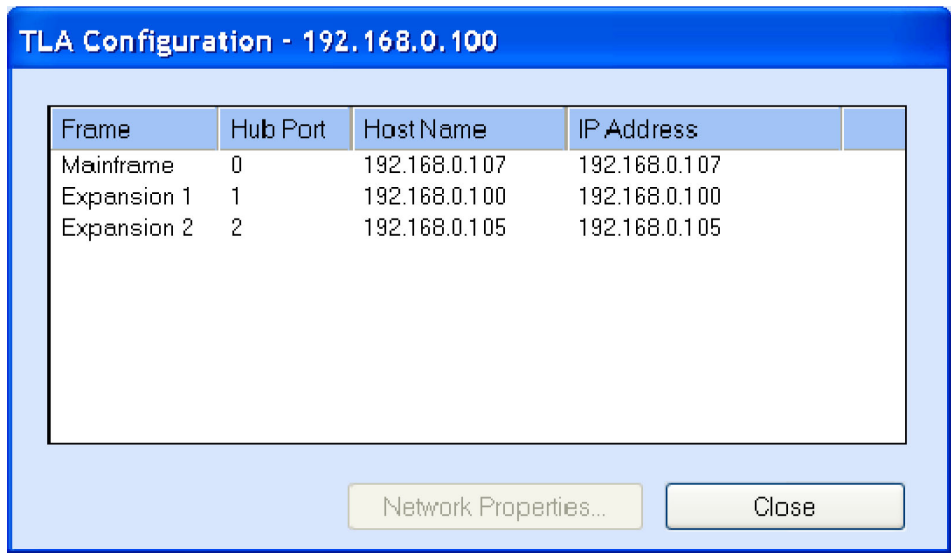

Figure 30: TLA Configuration dialog box
3. Click the TLA Configuration icon. The TLA Configuration dialog box opens. (See Figure 30.)